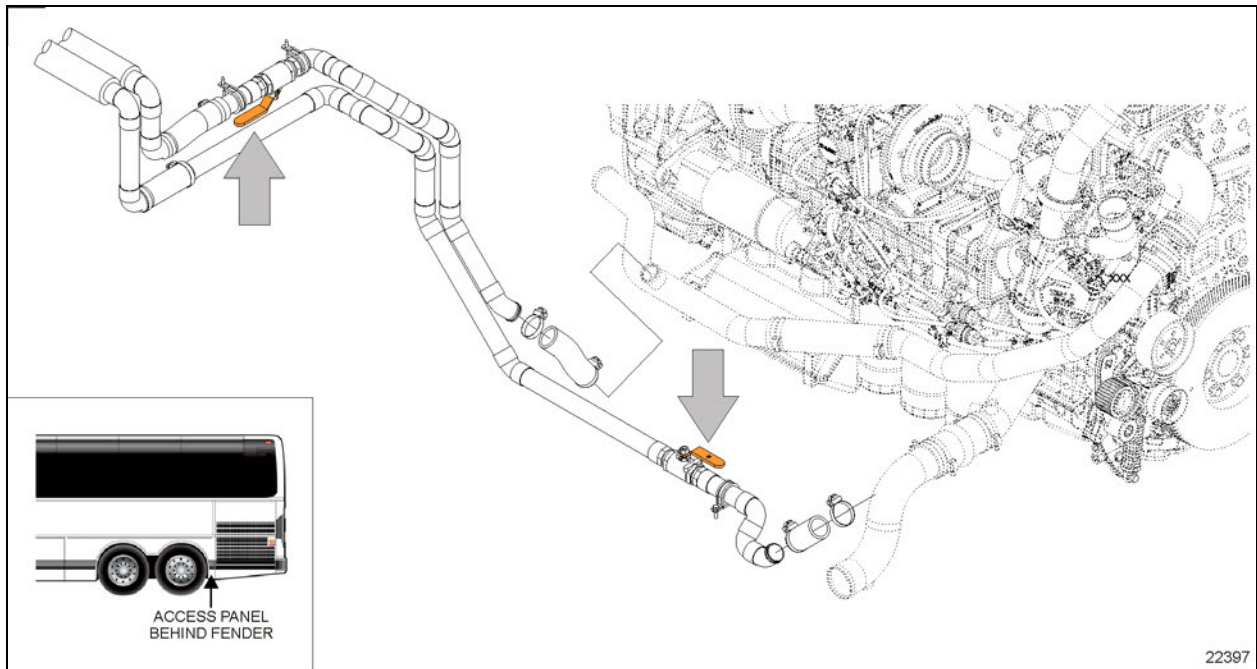
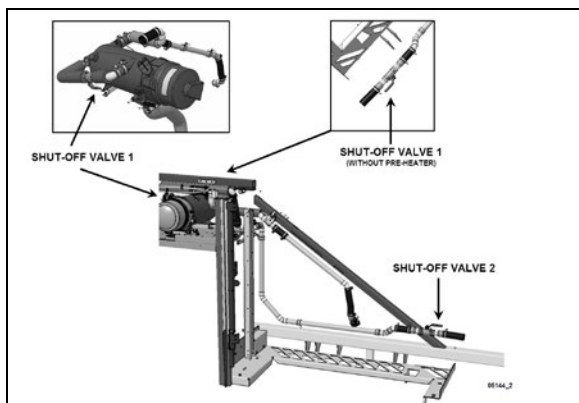

FIGURE 72 X SERIES HEATER LINE SHUT-OFF VALVES- (ALLISON TRANS. PIPING ARRANGEMENT SHOWN)
FIGURE 73: H3 SERIES HEATER LINE SHUTOFF VALVES 05144
3. Close the hot water lines shut-off valves located next the engine on street side (see Figure 72 or Figure 73).
2. Close both heater line shutoff valves (Figure 72 or Figure 73). One is located in the engine compartment, lower road side, near the radiator while the other one is located behind the L.H. hinged rear fender near the preheater.